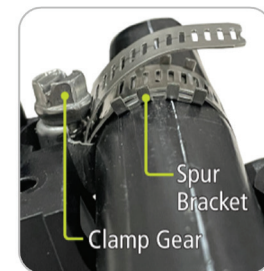

Figure 44
1. The spur bracket MUST be installed completely under the hose clamp ring at the top of the cable (Figure 44)